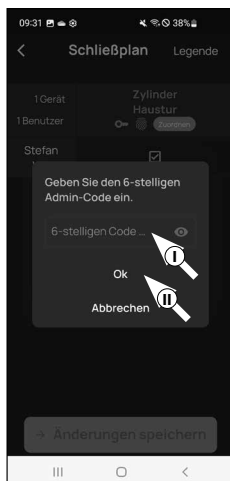

Fig. 5
⑥ Here you will be asked to verify yourself with your administrator code. Enter the code and confirm with "OK" (Fig. 5).